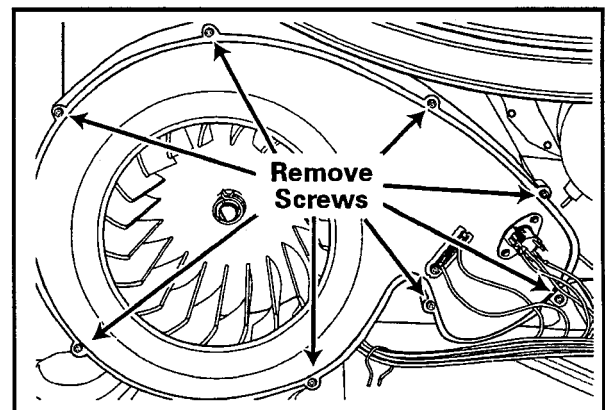

Figure 7-3
2. Remove eight screws holding cover to blower housing, **(See Figure 7-3)**.